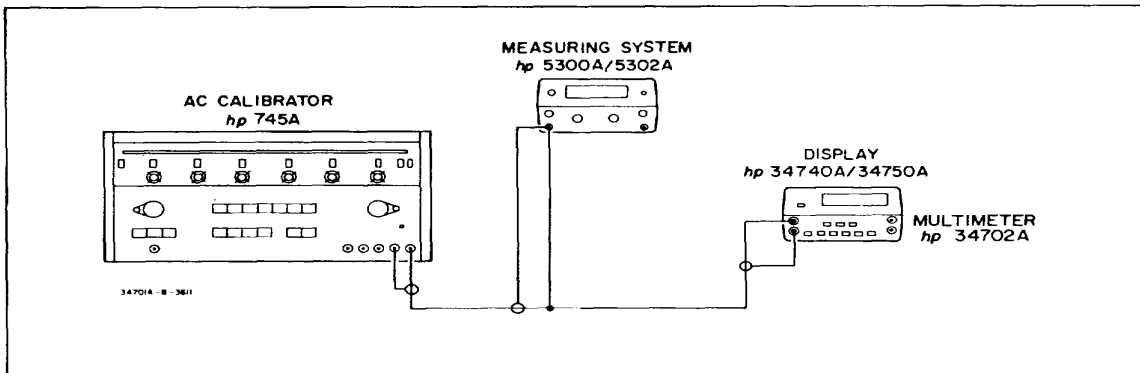

Figure 5-3. Normal Mode Rejection.
- a. Disconnect all previous connections to the 34702A input and connect the equipment as shown in Figure 5-3. Set the Model 34702A to DCV and the 1 V range.